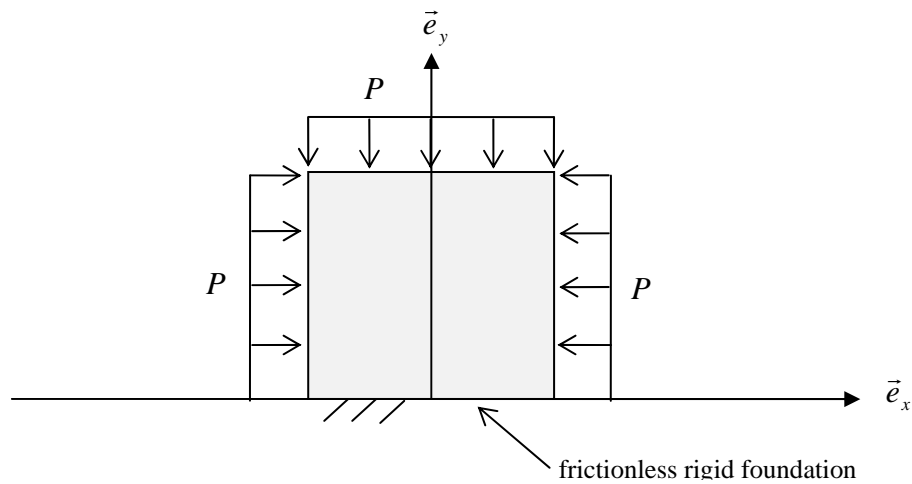

Figure. 3. A body of infinite length under lateral pressure
3. (10 pt.) We have a body (square section of  $L \times L$  in the  $x$ - $y$  plane) of infinite length in the  $\vec{e}_z$ -direction. The body is subjected to the external pressure ( $P$ ) as shown in Fig. 3. The self-weight is neglected.